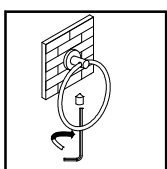

FIGURE 7
- Assemble the bar between the 2 posts and position over wall brackets, screw the posts with the screws provided. (FIGURE 7)